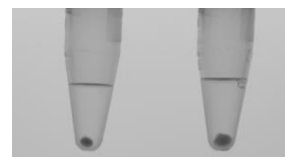

Fig. 1: recommended pellet sizes:
- 50 – 200 μL of yeast slurries or other samples with sediment to reach a pellet size of app. 2 mm in diameter after centrifugation (see fig. 1)
- Control the pellet size, it is including the cells from the sample. Pellet size should not exceed 2 mm in diameter (see fig. 1).